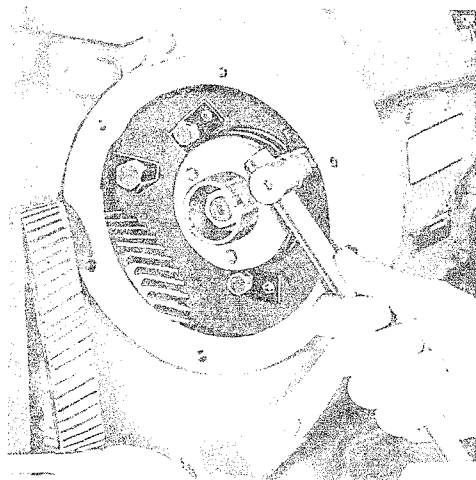

Figure 64. Cap Screws which Secure Pump to Crankcase Front Cover
(1) Keep all parts clean. Before disconnecting any fuel pipes from the pump, first thoroughly clean the pump and connections with kerosene or diesel fuel. When the pipes have been disconnected the discharge fittings and all open connections should be covered to prevent dirt from entering the system.
(2) Close the fuel shut-off valve at the tank. Drain the fuel from the diesel fuel filter. Drain the lubricating oil from the injection pump housing.
(3) Set the compression release lever in the gasoline (starting) position.
(4) Pull the "coil-to-distributor" cable from the coil cover terminal on the magneto.
(5) Disconnect all fuel pipes attached to the injection pump. Install caps on the discharge fittings and cover open connections with tape.
(6) Disconnect the engine speed control rod.
(7) Remove the cap screws which secure the pump gear cover, Fig. 64, to the crankcase front cover, then lift off the pump gear cover.
(10) Remove the three cap screws, Fig. 64, which secure the pump to the crankcase front cover.
(11) Remove the two cap screws which secure the pump mounting flange to the